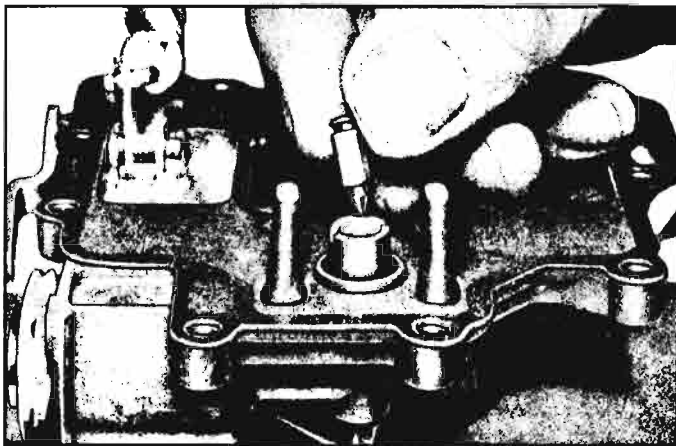

Fig. 9-20—Removing Float Needle
5. Lift out float needle (fig. 9-20). Check seat for dirt or corrosion.